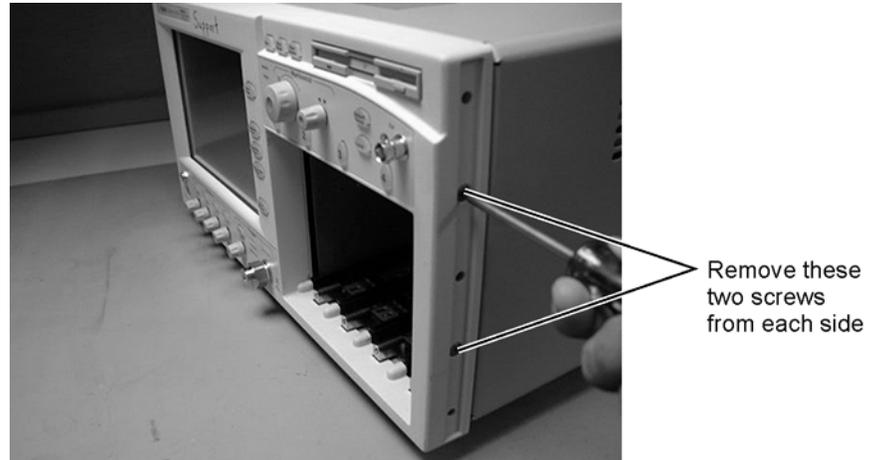

Figure 7-7. Removing the Front Panel Screws
- 3 Use the T-15 TORX driver to remove the four screws (two on each side) that secure the front panel to the mainframe, as shown in Figure 7-7.